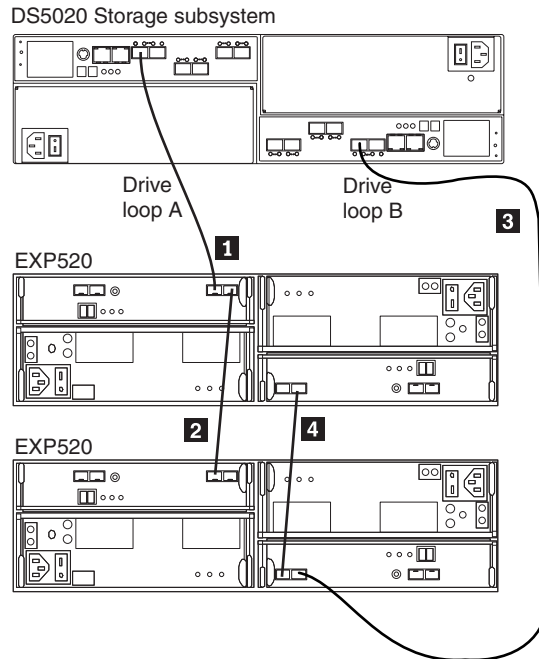

Figure 28. Correct EXP520 redundant drive loop configuration
- The controller drive ports of the DS5020 storage subsystem controllers must always be connected to the ports labeled 1B in both right and left ESMs of the EXP520s in the redundant drive channel/loop pair that is connected to the DS5000 storage subsystem. (Figure 28 on page 44 shows the location of the ports.)
Figure 28 on page 44 shows a redundant drive loop that you might create with a DS5020 storage subsystem and two EXP520s. The numbers provided in Figure 28 on page 44 show the order in which cables should be attached. Note that the controller port is connected to the port labeled 1B on both the right and left ESMs.
To create drive loop A (of the DS5000 redundant drive loop) shown in Figure 28, you would perform the following steps:
To create drive loop B (of the DS5000 redundant drive loop) shown in Figure 28, you would perform the following steps: